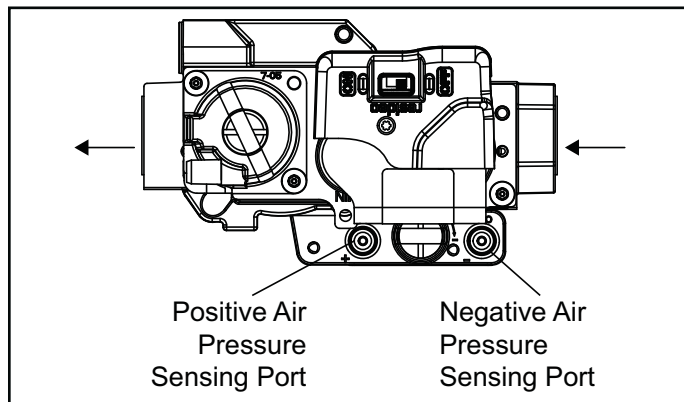

Figure 1. Gas Valve
6. Slide the gas control switch, or turn the gas control knob, to "OFF" (see Figure 1).
4. Slide the gas control switch, or turn the gas control knob "OFF" (see Figure 1). Do not force.